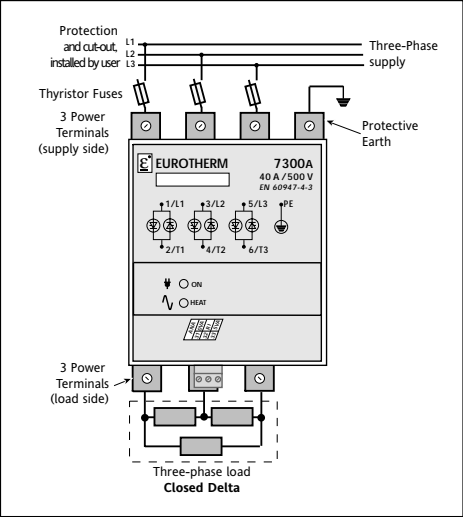

Figure 2-9 Connecting a three-phase load using closed delta configuration (3D)
- closed delta (3 connection wires, code 3D), figure 2-9